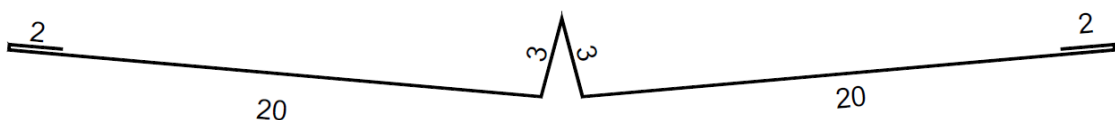

Fig. 15 - Metal flashing profile
- As for the roof valleys, prepare a band of bituminous membrane about 100cm wide, applied by torch in advance, to ensure its waterproofing. Install a pre-painted aluminium valley* flashing above the membrane, with a shape similar to Fig. 15, along the centre of the valley.
- As for the roof valleys, prepare a band of bituminous membrane about 100cm wide, applied by torch in advance, to ensure its waterproofing. Install a pre-painted aluminium* valley flashing above the membrane, with a shape like Fig. 15, along the centre of the valley.